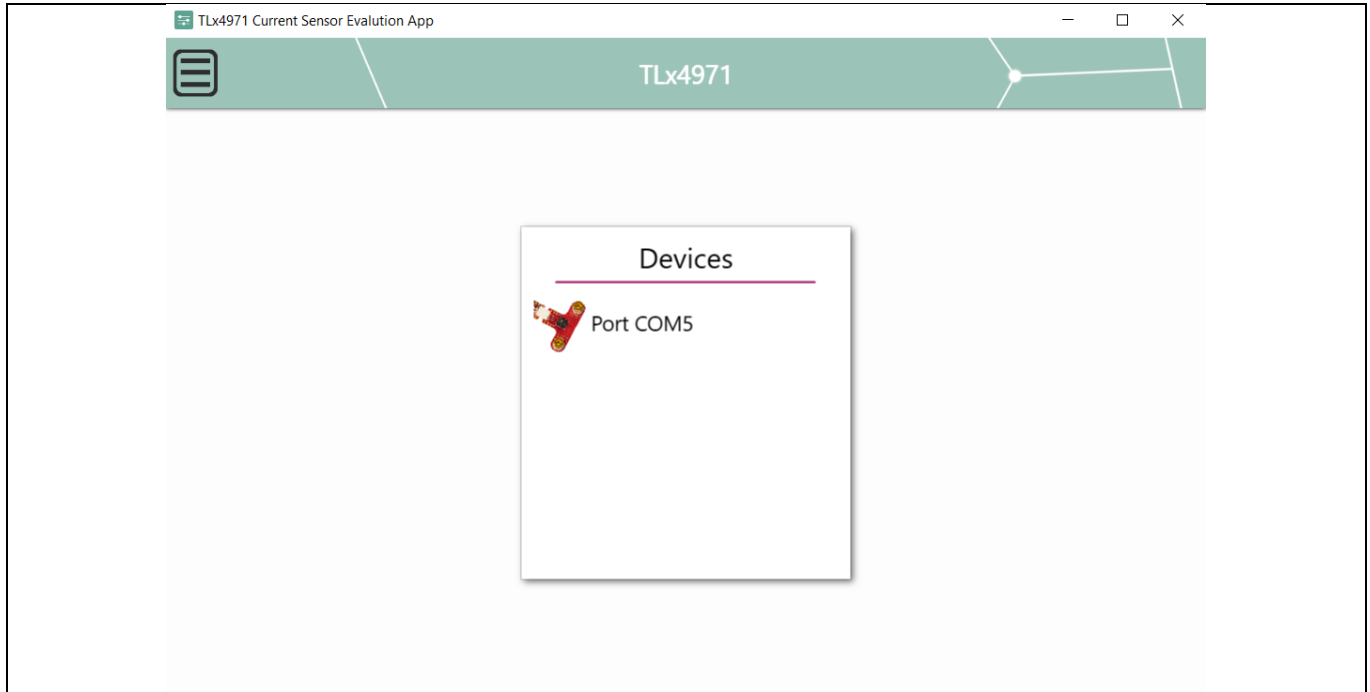

Figure 12 Log and Evalkit Software Window
- If the MS2Go kit is connected to a PC through the USB cable and the connection is successful, then a window called “TLx4971 Current Sensor Evaluation App” will pop up as shown in Figure 12.